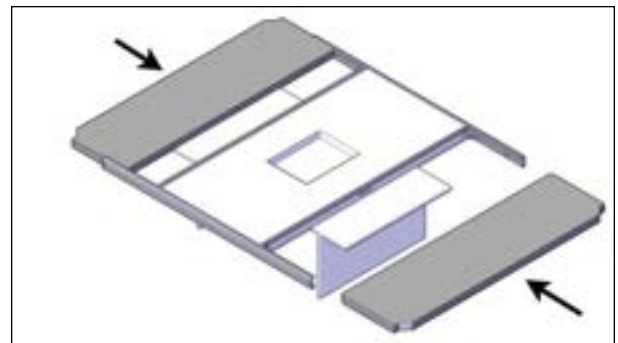

FIGURE 41: END PANELS
- Slide the end panels on both ends of the cover. Make sure the I-beams have slid over the panel on both bottom and top side see Figure 41.